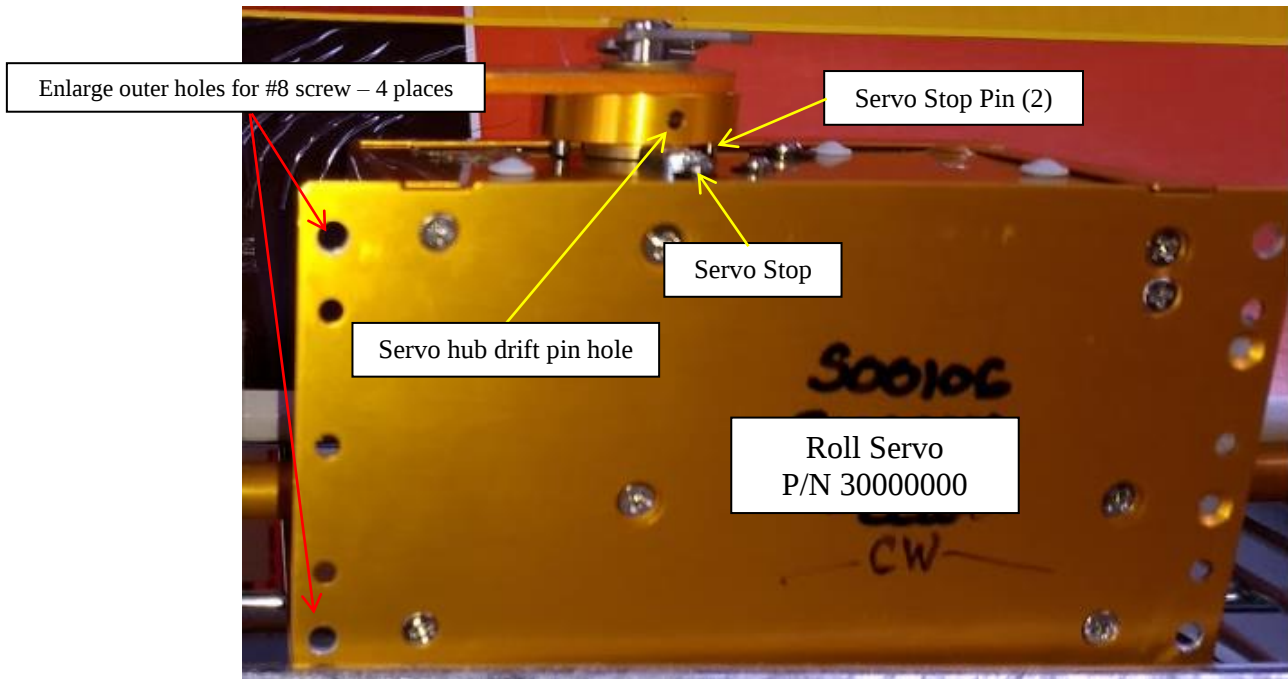

FIGURE 3-6 ROLL SERVO HUB DRIFT PIN ALIGNMENT
The Roll Servo hub roll pin hole must be aligned with the servo stop as depicted Figure 3-6 before attaching the crankarm to the hub. The four (4) outer baseplate holes must be enlarged for #8 screws using a #16 drill bit.